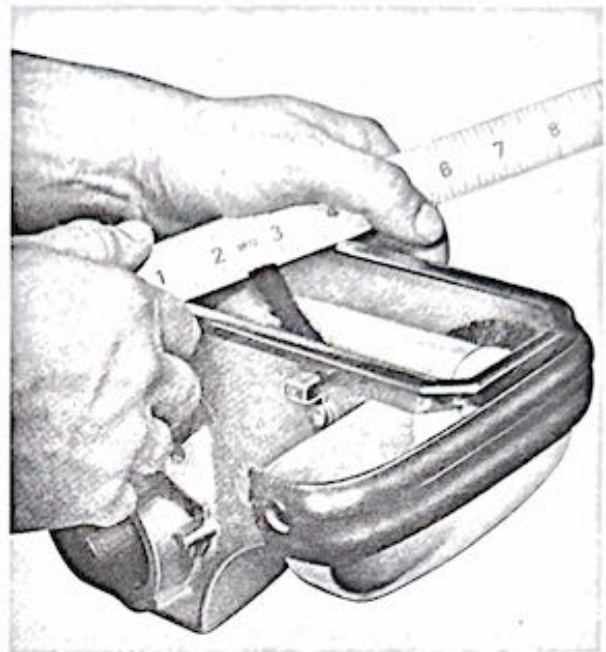

Figure 2-2. Checking nozzle brush protrusion
(1) Place a straight edge across the nozzle opening to determine the protrusion of the brush bristles as shown in figure 2-2. Bristles should protrude 1/16 inch beyond the mouth of the nozzle.